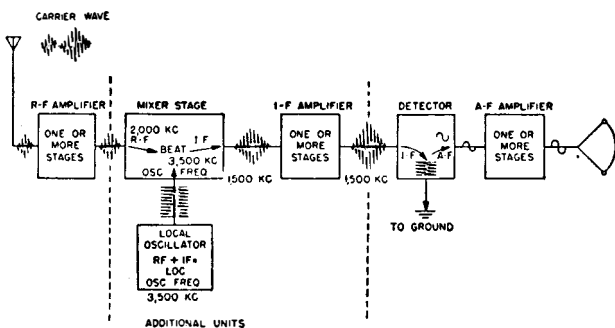

Figure 4-15.—Block diagram of the superheterodyne receiver.
The superheterodyne contains all the major units of the TRF, with three additional units—mixer, local oscillator, and intermediate-frequency (IF) amplifiers—inserted between the RF amplifier and detector. (Refer to fig. 4-15.) Operation of the RF amplifier, second detector, and AF amplifier is the same as in the TRF receiver, but the added components (local oscillator, and IF amplifiers) change the operation of the circuit as a whole.
The carrier wave from the RF amplifier is fed into the mixer stage. In figure 4-15 the received carrier wave frequency is 2000 KCS. A second and higher frequency—3500 KCS in the example—is produced in the local oscillator. The frequency of the local oscillator is controlled by the tuning dial on the receiver. As the receiver is tuned to a new frequency, the frequency generated by the local oscillator changes also, but always remains a certain number of kilocycles higher than signal frequency. In figure 4-15 the local oscillator signal is 1500 KCS higher than the carrier. This signal is sent into the mixer stage to be beaten against the carrier signal—that is, HETERODYNED.